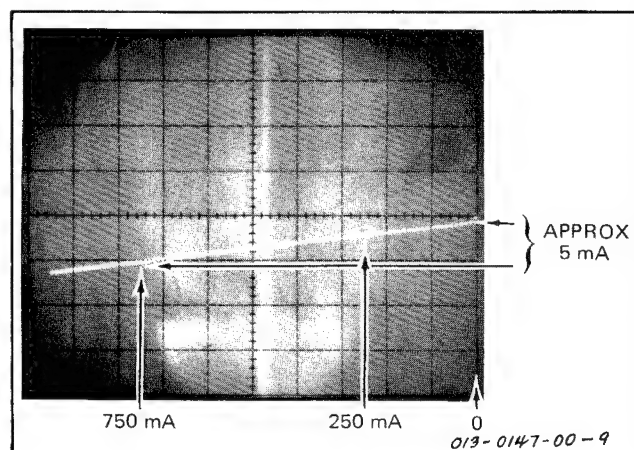

Fig. 2-9. Illustration of Example 1, part n.
n. Check the display from 2.5 horizontal divisions to 7.5 horizontal divisions (250 mA to 750 mA). Again, read the regulation from the difference in vertical deflection between the 2.5 division and 7.5 division points. See Fig. 2-9.